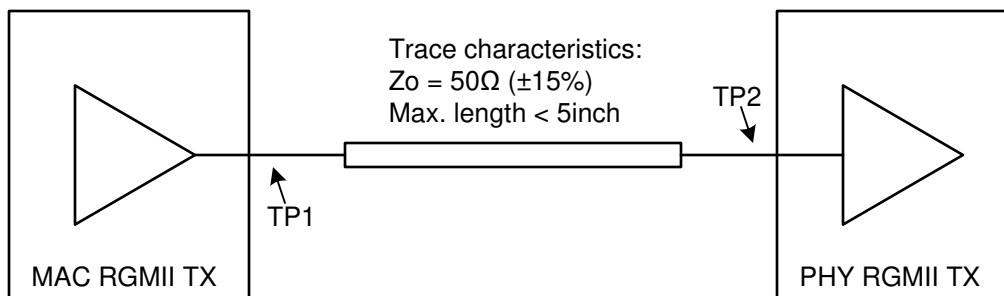

Figure 7-2. RGMII TX Requirements
- Figure 7-2 shows a RGMII interface requirements for TX* signals. MAC RGMII driver output impedance should be 50 Ohm +/-20%.
- Skew for all RGMII TX signals at TP2, in Figure 7-2, should be $\leq \pm 500\text{ps}$.
- Signal Integrity at TP1 and TP2, in Figure 7-2, should be verified with IBIS model simulation and ensured conformance to following requirements: